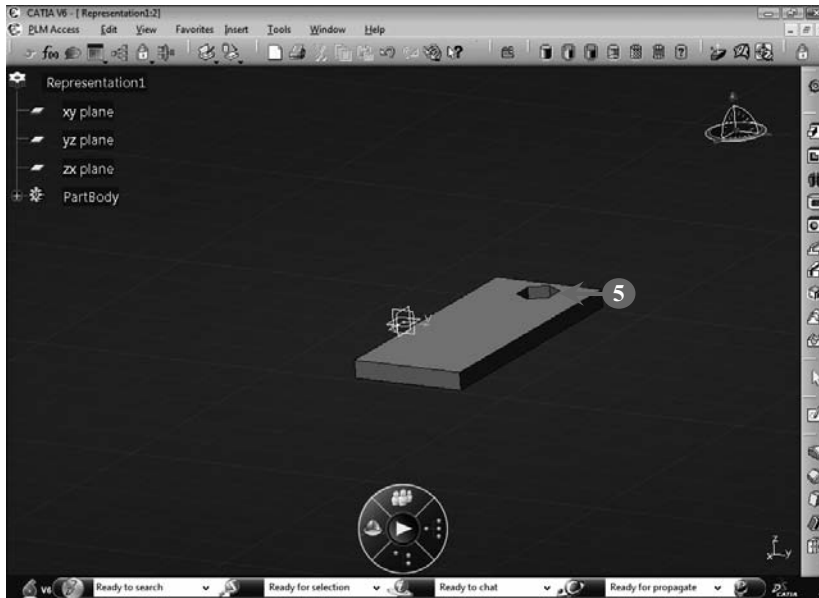

FIGURE 3.108
5. Add a pocket to the solid model. The solid model after adding the pocket is shown in **Figure 3.108**: